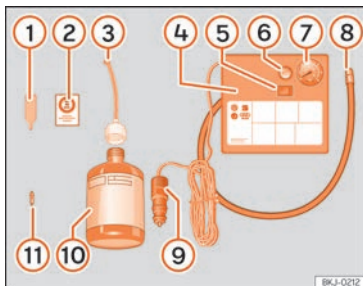

Fig. 32 Standard representation: anti-puncture kit contents.
The anti-puncture kit is located underneath the floor covering in the luggage compartment. It includes the following components » **Fig. 32:**
- Unscrew the tyre valve cap and insert. Use the » **Fig. 32** ① tool to remove the insert. Place it on a clean surface.
- Shake the tyre sealant bottle vigorously » **Fig. 32** ⑩.
- Screw the inflator tube » **Fig. 32** ③ into the sealant bottle. The bottle's seal will break automatically.
- Remove the lid from the filling tube » **Fig. 32** ③ and screw the open end of the tube into the tyre valve.
- Place the insert back into the tyre valve using the tool » **Fig. 32** ①.
- Screw the compressor tyre inflator tube » **Fig. 32** ⑧ into the tyre valve.
- Check that the air bleed screw is closed » **Fig. 32** ⑥.
- Insert the connector » **Fig. 32** ⑨ into the vehicle's 12-volt socket » **page 153**.
- Turn the air compressor on with the ON/OFF switch » **Fig. 32** ⑤.
- Attach the sticker »» Fig. 32 ② to the instrument cluster, within the driver's visual field.
Screw the inflator tube »» Fig. 32 ⑤ again and check the pressure on the gauge ⑥.